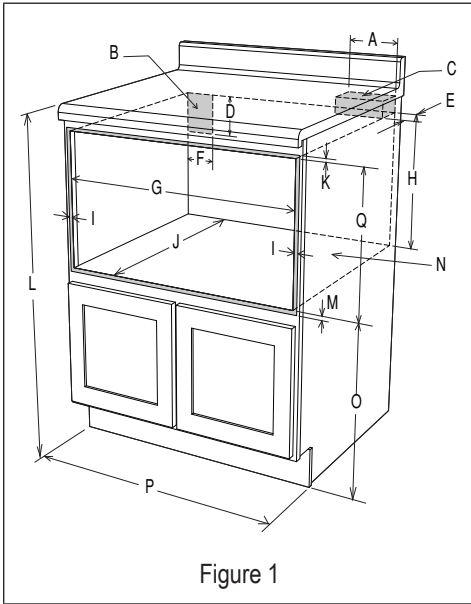
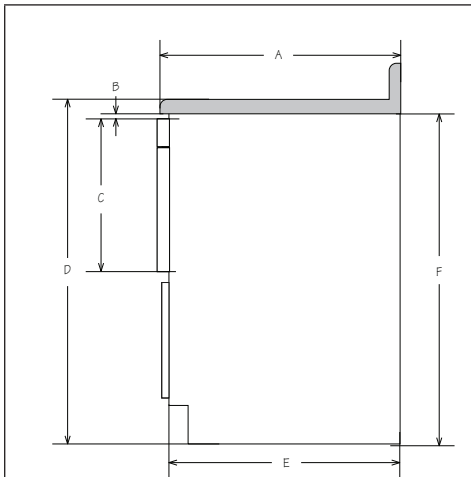
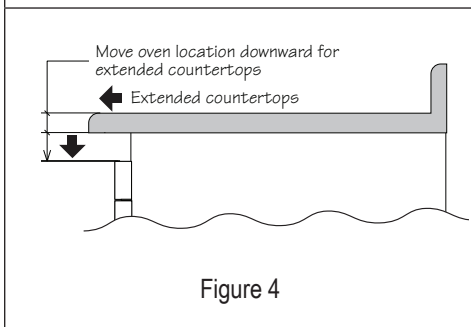

Figure 1
Figure 3
Figure 4
- For SAFETY CONSIDERATIONS do not install drawer in any combustible cabinetry, which is not in accord with the stated clearances and dimensions on page 6, See Figure 1.
- Dimensions that are shown in Figure 1 must be used. Given dimensions provide minimum clearance. Locate electrical outlet in the shaded area in the upper left-hand corner of the cut-out. See Figure 4.
Figures 1 and 2 contain many Drawer Microwave measurements for reference when planning the drawer's location.
Figure 3 represents a typical standard cabinet. If installed in custom cabinets with extended countertops, take into account visibility and access to controls. See Figure 4.